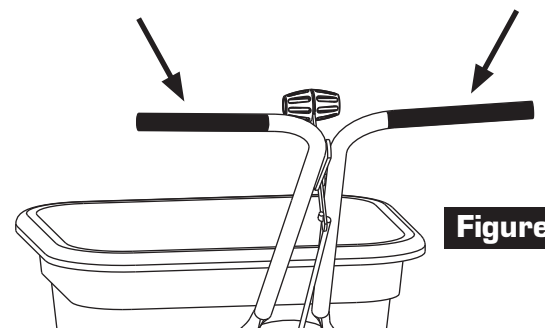

Figure 8
11. Install handle grips, Figure 8.